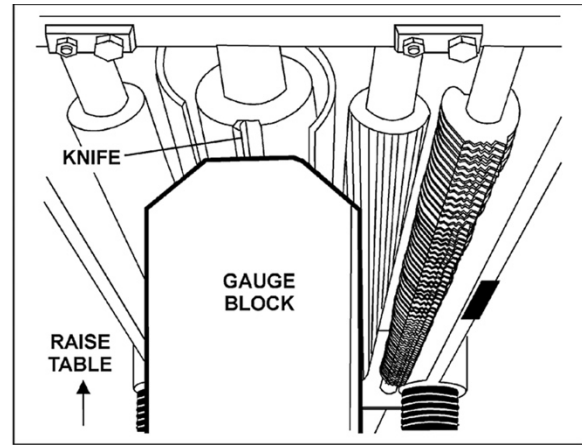

Figure 9-8
2. Place the gauge block (Figure 9-8) on the work table directly under the edge of a knife or knife insert as shown. Make slight contact with the knife edge by gently raising the table.